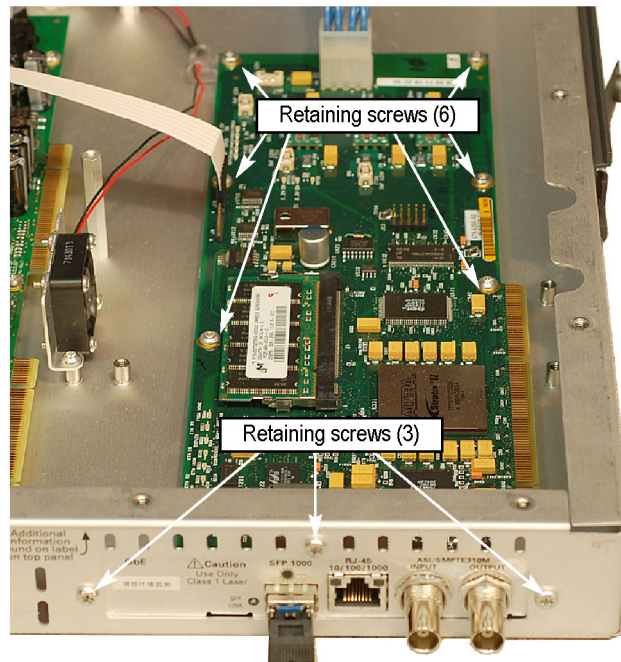

Figure 38: Retaining screw locations for QAM (Annex B2), 8PSK/QPSK, DVB-S2, 8VSB, and COFDM interface cards
- b. For QAM (Annex B2), 8PSK/QPSK, DVB-S2, 8VSB, and COFDM interface cards, remove the six retaining screws from the card and remove the three retaining screws from the rear panel. (See Figure 38.)
- b. For QAM (Annex B2), 8PSK/QPSK, DVB-S2, 8VSB, and COFDM interface cards, install the six retaining screws in the card and install the three retaining screws in the rear panel. (See Figure 38.)